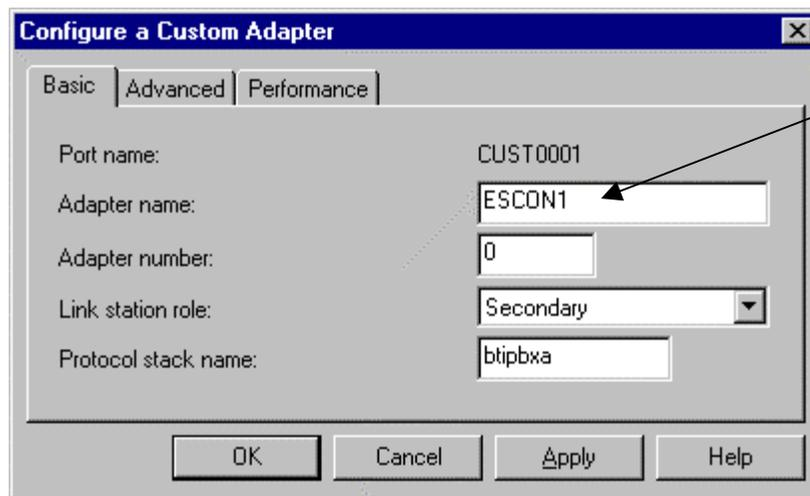

Figure 15-18. Adapter Properties
2. Double click the custom adapter (or click View/Change/Add). The adapter’s properties screen will display (Figure 15-18). Make note of the Adapter name.